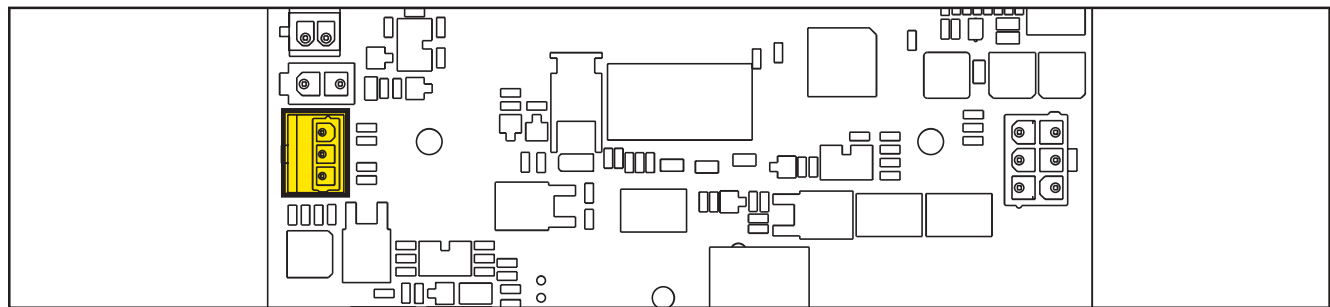

Figure 32:
**(Figure 32) J4: JST VH vertical, 3-way (B 3P-VH)**